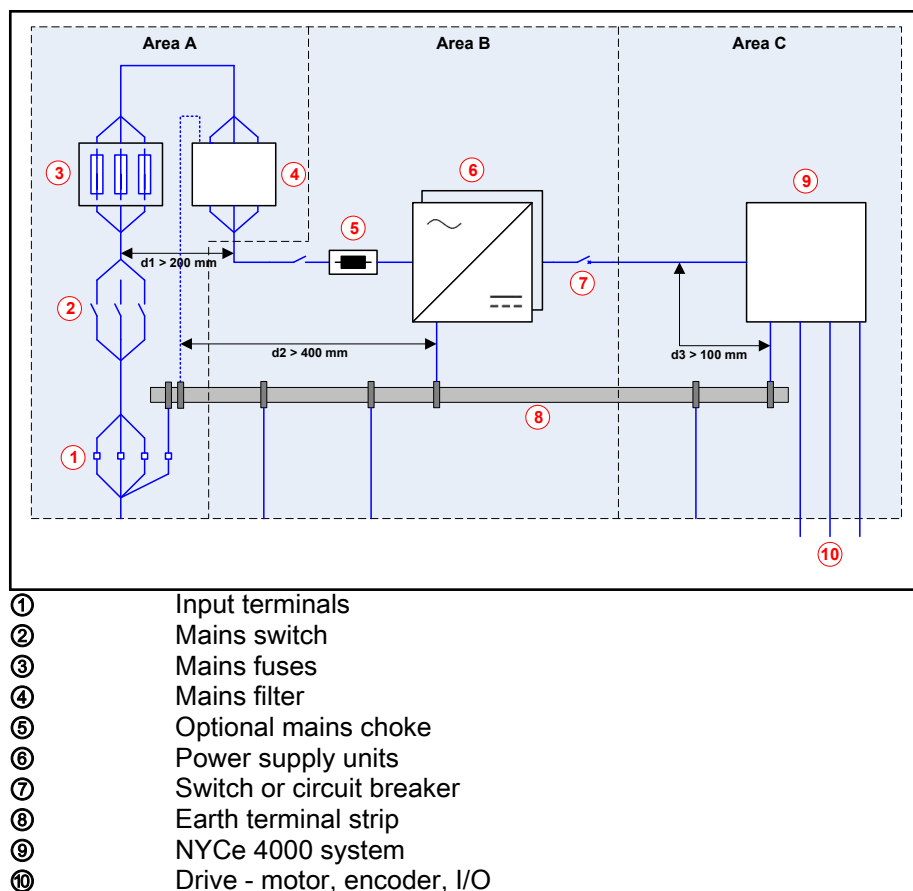

Fig. 29-2: EMC interference-free and interference-susceptible areas
Comply with a distance of at least 200 mm (distance "d1" in fig. 29-2 "EMC interference-free and interference-susceptible areas" on page 212) between components and electrical elements (such as switches, pushbuttons, fuses, and terminal connectors) in area A and components and electrical elements in the other areas B and C.
Comply with a distance of at least 400 mm (distance "d2" in fig. 29-2 "EMC interference-free and interference-susceptible areas" on page 212) between magnetic components, (such as transformers, mains chokes and DC voltage chokes that are directly connected to power connections of the drive system)
Modules, components and cables in area B should be placed at a distance of at least 200 mm (distance "d1" in fig. 29-2 "EMC interference-free and interference-susceptible areas" on page 212) from components and cables in area A. Alternatively, shield components and cables in area B from components and cables in area A by distance plates mounted vertically on the mounting plate or use shielded cables.
- Route signal cables separated from power supply cables at a minimum distance of 100 mm (distance "d3" in fig. 29-2 "EMC interference-free and interference-susceptible areas" on page 212). The optimum way is to route signal cables and power supply cables in separate cable ducts. If possible, enter signal cables into the control cabinet at one point.